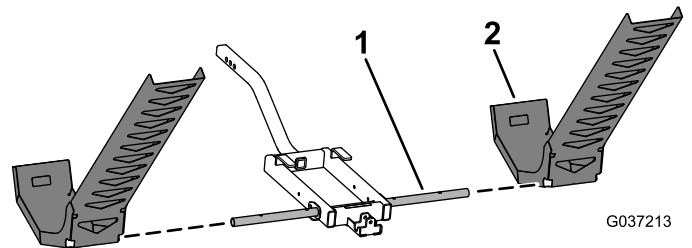

Figure 4
3. Slide the left and right spreader ramps onto the spreader-pivot shaft (Figure 4).